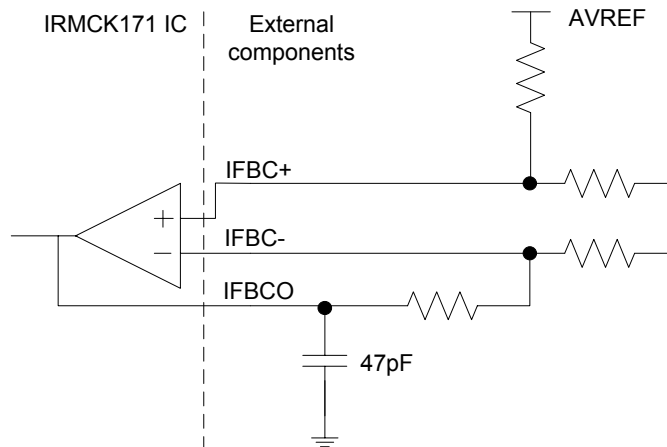

Figure 5 A capacitor of 47pF is recommended at the output pin of all op amps.
(1) Data guaranteed by design.
(2) To guarantee stability of the operational amplifier, it is recommended to load the output pin by a capacitor of 47pF, see Figure 5. Here only the single shunt current amplifier is show but all op amp outputs should be loaded with this capacitor.